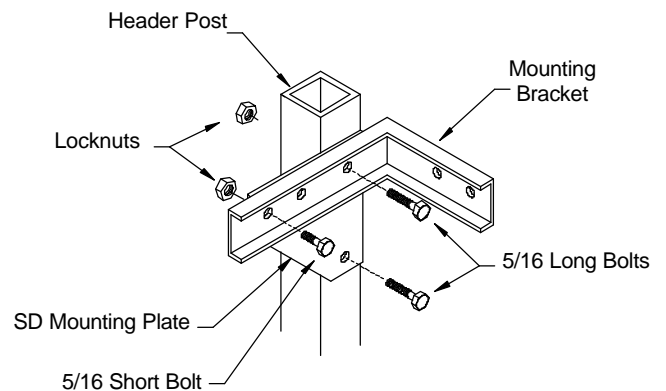

FIGURE 9
5. Install the header bracket and SD mounting plate on the vertical riser using the supplied 5/16" locknuts and bolts. (Figure 9)